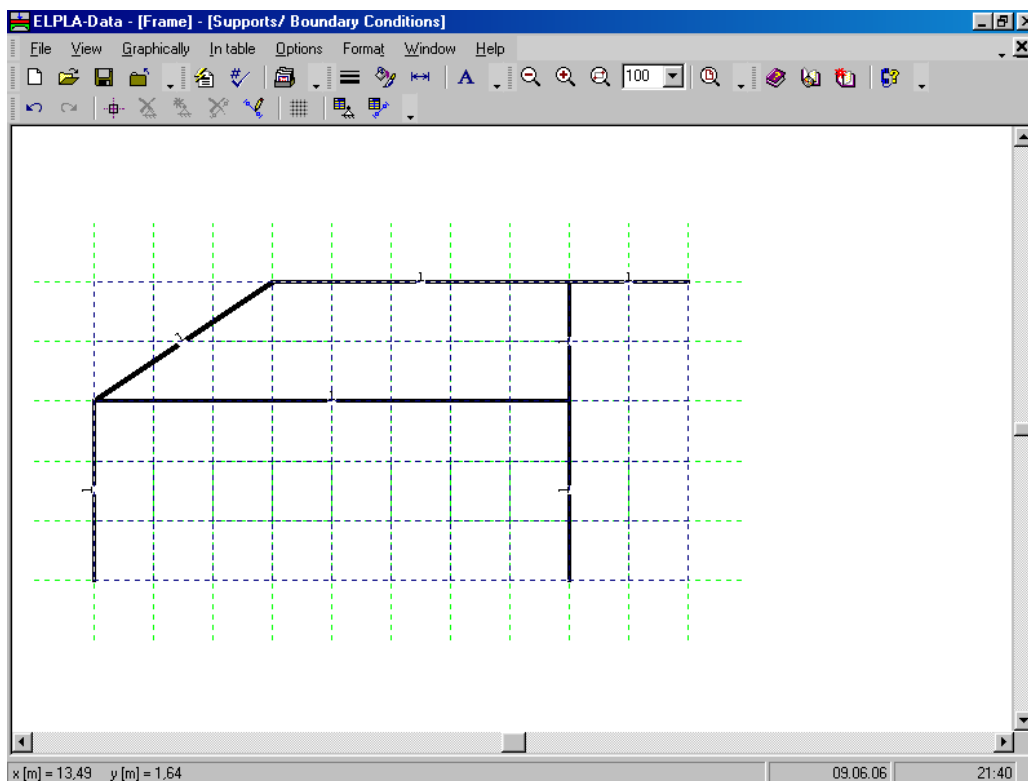
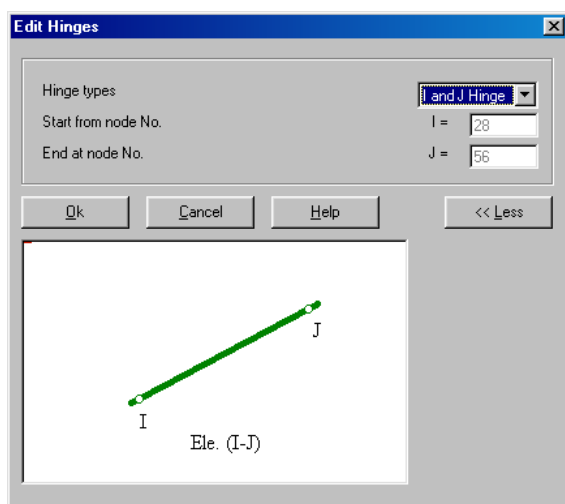

Figure 7-20 Girders are drawn as simple lines
Figure 7-24 "Edit hinges" dialog box
After clicking "OK" in the "Plot parameters" dialog box, the girders are drawn as simple lines as shown in Figure 7-20.
- Choose "Select nodes" command from the "Graphically" menu in Figure 7-20. When "Select nodes" command is chosen, the cursor will change from an arrow to a cross hair
To define the element hinged, choose "Edit hinges" command from the "Graphically" menu in Figure 7-20. When "Edit hinges" command is chosen, the cursor will change from an arrow to a cross hair. Double click on the element that has hinges. "Edit hinges" dialog box in Figure 7-24 appears.